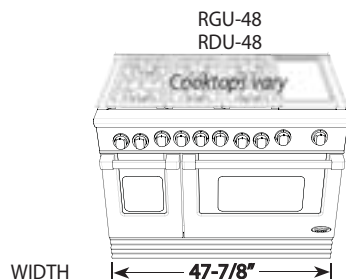

Fig. 13 Product dimensions and clearances
7. When there is less than a 12" clearance between combustible material and the back edge of the range (above the cooking surface), a DCS Standard backguard or Full backguard must be installed. When clearance to combustible material is over 12" no backguard is necessary. RGU and RGUC models are supplied with a matching BGRU2-15xx standard backguard. For RDU models, the backguard must be ordered separately, (see section 'Planning the installation'). See Fig. 13 for an illustration of all the installation options.
The backguard is located as shown in Fig. 14. Secure the backguard to the range (standard backguards) or the wall behind the range (full backguards). Specific instructions for installation can be found packaged with the backguard. See also "Planning The Installation" section. A backguard (standard or full) must be installed when there is less than a 12" clearance between combustibles and the back of the range (above the cooking surface). See Fig. 13.